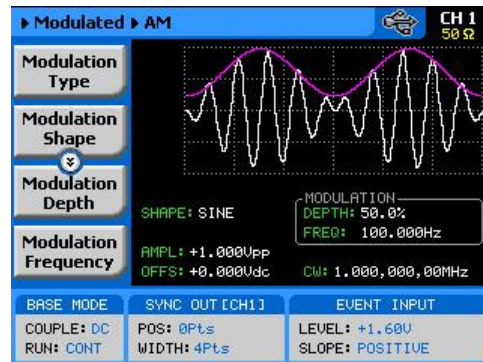

Figure 3-42, AM Menus
The AM function enables amplitude modulation of a carrier waveform (CW). The carrier waveform is modulated by an internal waveform, normally referred to as envelope waveform. The envelope waveform can be selected from sine, triangle square or ramp shapes. When AM is selected, the menus that are associated with AM become accessible. These are shown in Figure 3-42.